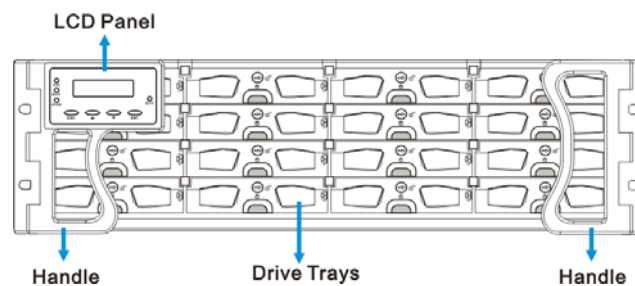
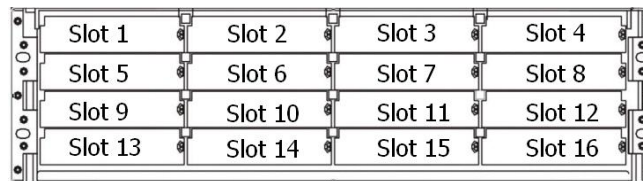

Figure 1-3: SecurStor 16I Front View
Figure 1-4: Hard Drive Numbering
The SecurStor 16I RAID storage is housed in a 3U metal chassis that is divided into front and rear sections. Key components are respectively accessed through the front (see Figure 1-3) and rear (see Figure 1-4) panels. The enclosure chassis can be mounted into a standard 19-inch rack or enclosure cabinet using support brackets that are separately-purchased.
- With handles: 483mm (W) x 131mm (H) x 504.3mm (L) (19 x 5.2 x 21 inches)
The front section of the subsystem features a 4x3 layout for twelve (12) 3.5-inch drives. The two (2) handles on the front of the subsystem enable you to easily insert/extract the chassis into/from a rack or cabinet. The front panel of the SecurStor 16I RAID subsystem described in this manual is shown in *Figure 1-3*. A description of each front panel component is given below:
The front panel shown in *Figure 1-3* accommodates the following components: